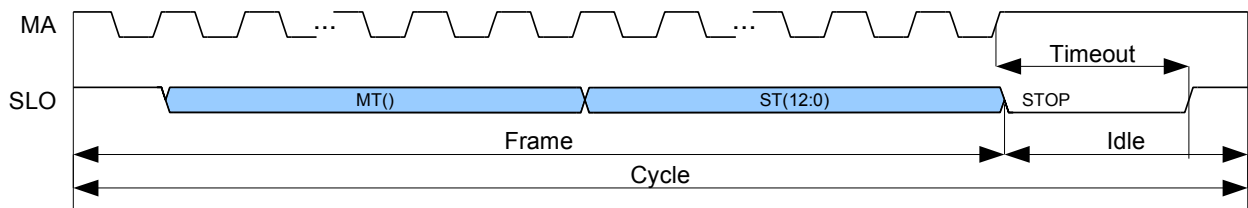

Figure 30: Standard SSI protocol
According to Table 52, the standard SSI protocol format includes the multiturn (MT) and singleturn (ST) position. The ST data length has to be set to exactly 13 bit via **BISS_ST_DL**. The MT data length has to be set to either 0 or 12 bit via **BISS_MT_DL**. A transmission using the standard SSI protocol is shown in Figure 30.